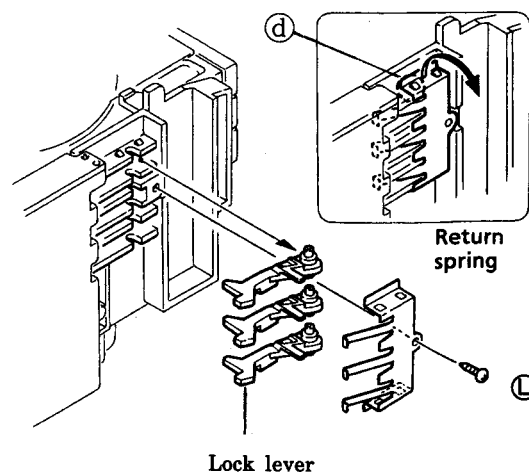

Fig.23
7. Remove a screw ⑦which secures the return spring and lock levers from the chassis ass'y.(See Fig. 23.)
8. Remove 2 pawls⑧ which slightly secure the return spring to remove it.